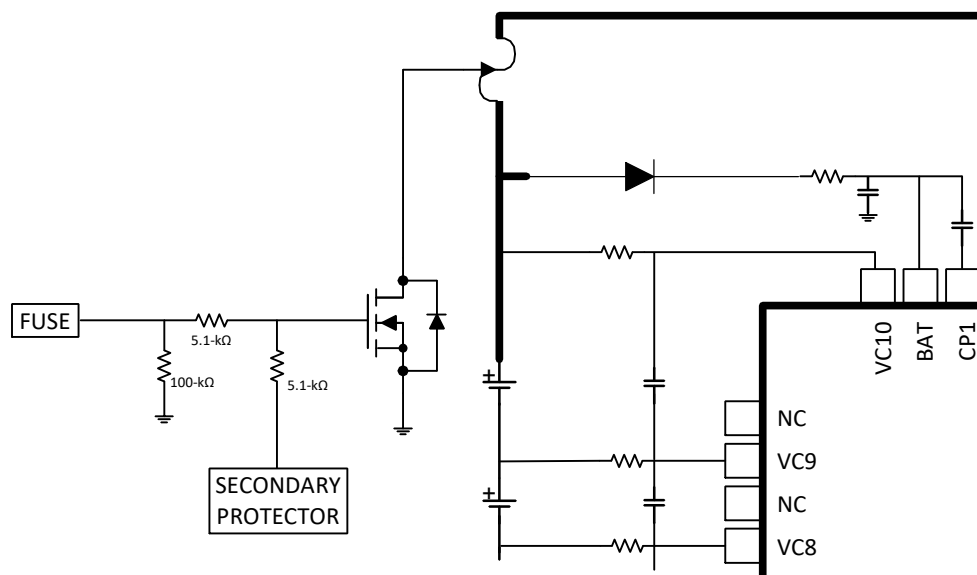

图 12-1. FUSE Pin Operation
The FUSE pin on the BQ76942 device can be used to blow a chemical fuse in the presence of a permanent fail (PF), as well as to detect if an external secondary protector in the system has detected a fault and is attempting to blow the fuse itself. The pin is intended to drive the gate of an NFET, which can be combined with the drive from an external secondary protector, as shown in Figure 12-1. When the FUSE pin is not asserted by the BQ76942 device, it remains in a high-impedance state and detects a voltage applied at the pin by a secondary protector. The device can be configured to generate a PF if it detects a high signal at the FUSE pin.